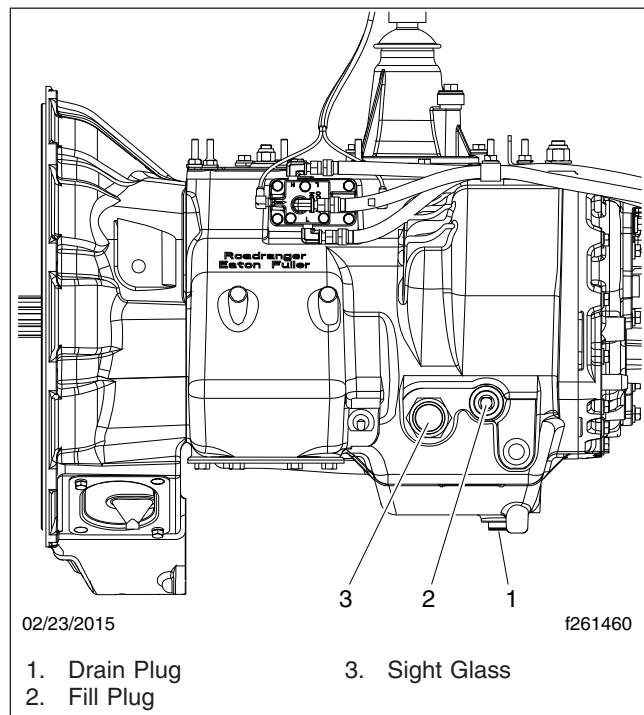

Fig. 3, Eaton Fuller Transmission With a Sight Glass
1. Clean the oil level sight glass. See Fig. 3.